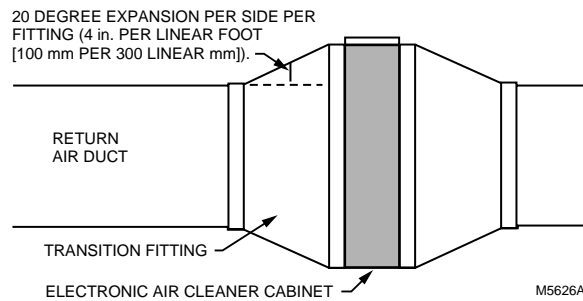

Fig. 3. Change duct size gradually to minimize turbulence.
Transitions are needed when the duct is a different size than the air cleaner cabinet. Gradual transitions reduce air turbulence and increase efficiency. Limit expansion to no more than 20 degrees or about 4 in. per running foot (100 mm per 300 linear mm) on each side of a transition fitting. See Fig. 3.
- Install a transition when the furnace and air cleaner openings are different sizes. See Fig. 3.
- ❑ Install a transition when the opening in the air cleaner cabinet and the duct are different sizes. See Fig. 3.